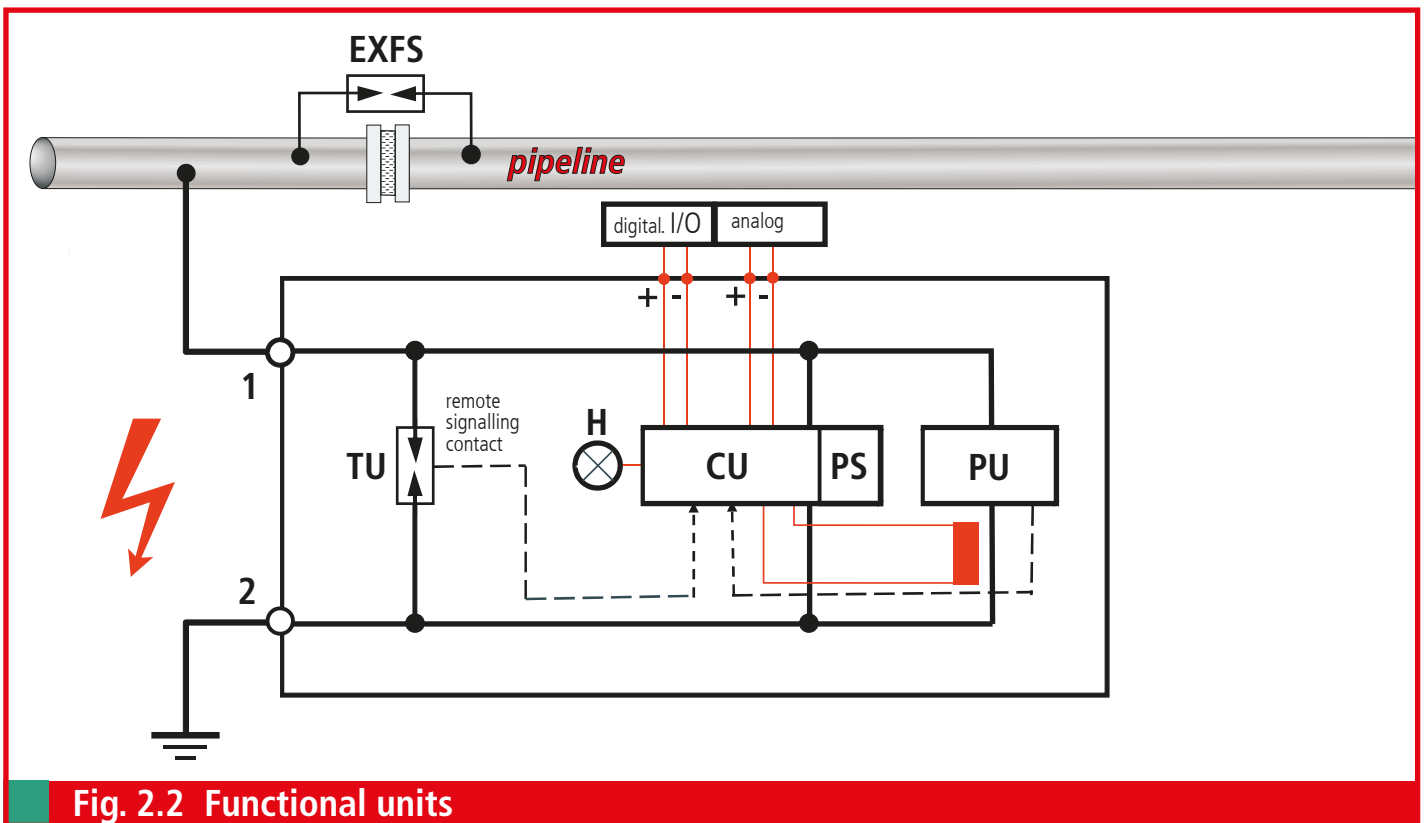

Fig. 2.2 Functional units
The **VCS D 40** IP65 **v**oltage-**c**ontrolled **s**mart decoupling **d**evice is used in widely distributed and highly networked electric systems which are influenced by external voltages from various sources of interference (e.g. high-voltage systems, traction power supply systems, low-voltage systems, lightning activity) (see also Fig. 2 and Fig. 2.2, page 6).
Components for limiting high-level transients resulting from lightning effects comprise powerful spark gaps. Characteristic properties of spark gaps are their short response time (typically 100 ns) and their high energy discharge capacity in case of impulses in the μs range (e.g. some 10 kA (10/350 μs)). Long-duration discharge processes (long-term or temporary time range) cause thermal overload and therefore a "relief circuit" has to "take over" the discharge process in this case, meaning that the complete discharge current flowing through the spark gap has to commute to the "relief circuit" as soon as the overvoltage exceeds the transient time range. This "relief circuit" (PU) of the *VCSD 40 IP65 smart decoupling device* consists of power semiconductors which are activated by a coordinated evaluation unit at the transition from the transient to the temporary / long-term time range. The evaluation unit (CU) evaluates different sensor signals, thus coordinating the interaction of the individual functional units (see Fig. 2.2).